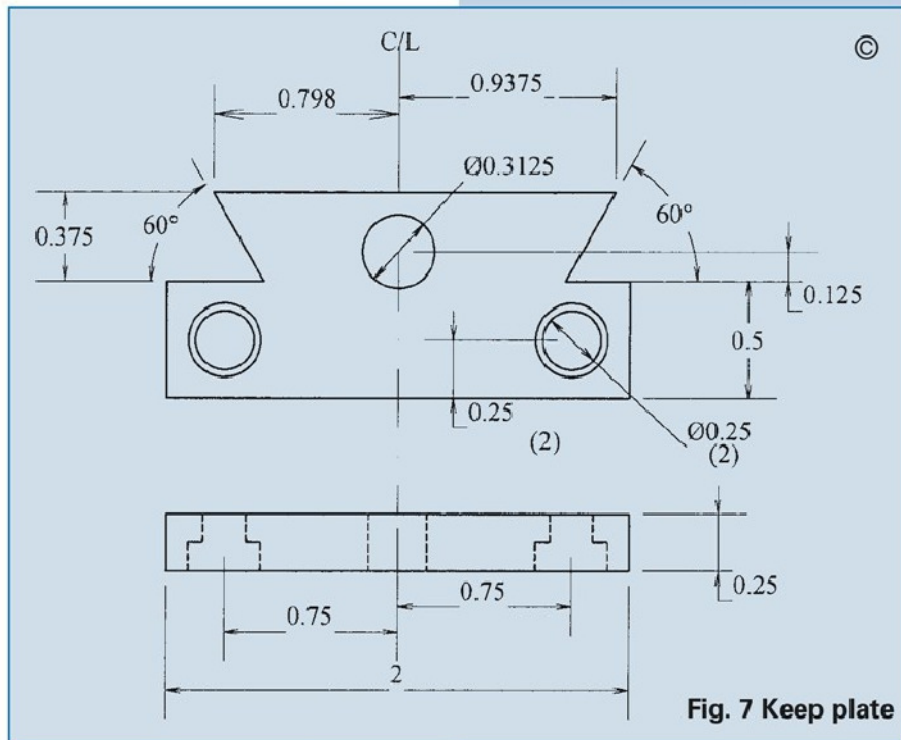

Fig. 7 Keep plate
- Fig. 7. Keep plate
Keep plate (Fig. 7)